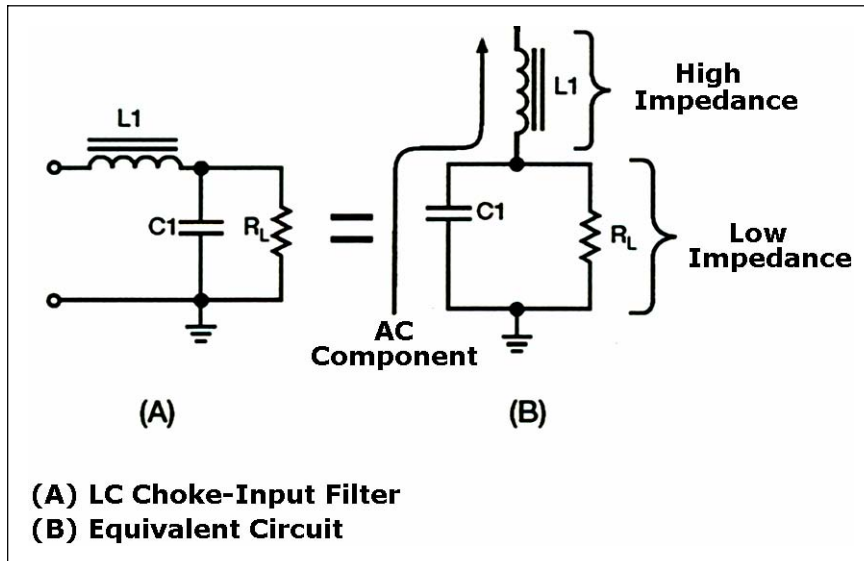

Figure 4-21. LC Choke-input Filter (Voltage Divider)
4-53. The inductor (also referred to as the filter choke or coil) serves to maintain the current flow to the filter output (R_L) at a nearly constant level during the charge and discharge periods of the filter capacitor. The inductor (L_1) and the capacitor (C_1) form a voltage divider for the AC component (ripple) of the applied input voltage (see Figure 4-21, views (A) and (B)). As far as the ripple component is concerned, the inductor offers high impedance (Z) and the capacitor offers low impedance (view B). As a result, the ripple component (E_r) appearing across the load resistance is greatly attenuated (reduced). The inductance of the filter choke opposes changes in the value of the current flowing through it. Therefore, the average value of the voltage produced across the capacitor contains a much smaller value of ripple component (E_r) than the value of ripple produced across the choke.